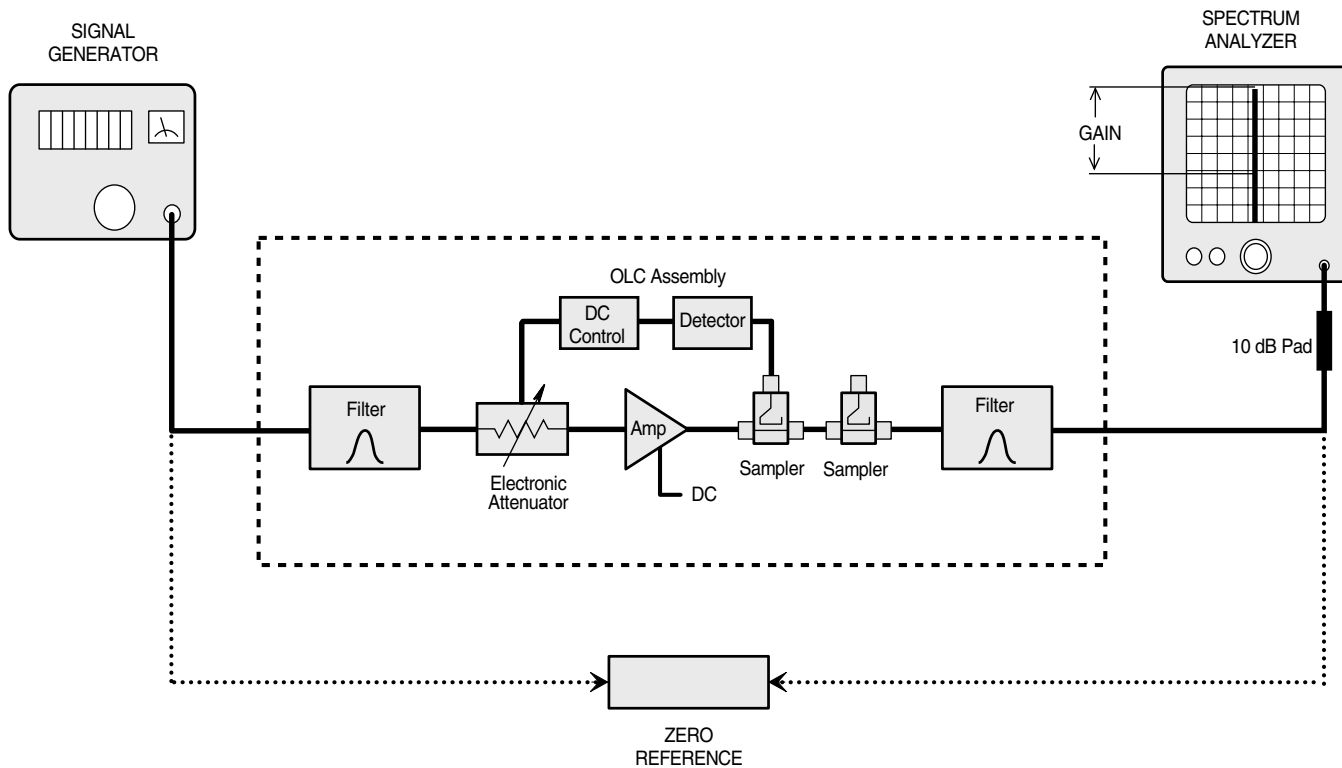

Figure 4: Test equipment interconnection for measuring signal booster gain.
- 1) Measure the gain of the signal booster being careful not to exceed the maximum input level. Figure 4 shows this being done using a signal generator and spectrum analyzer. This is basically a substitution measurement. Record the measured values for each passband.